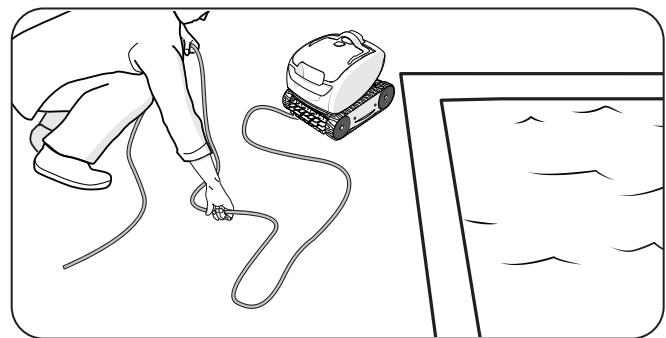

Figure 13. Untangle the Floating Cable
2. Start at the cleaner head, remove all coils and tangles from the floating cable. Lay the cable in the sun to loosen any tangling memory (Figure 13).